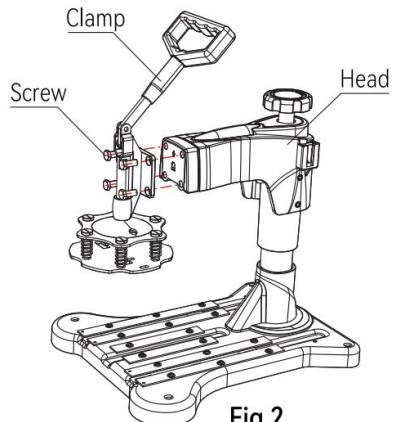

Fig 2
2. Pass the four screws through the quick clip and adapter, then screw them securely to the machine head and use a wrench to lock the screws (as shown in figure2).